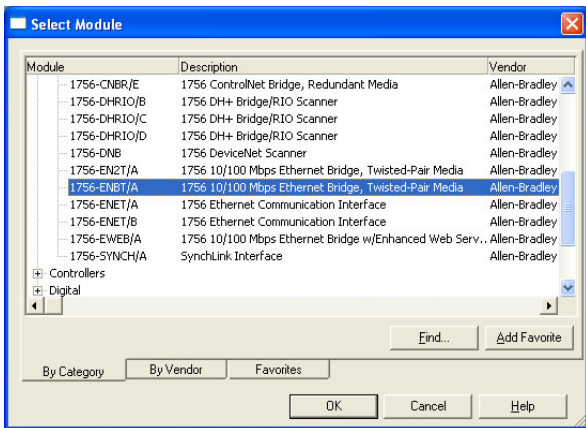

Figure 81: Adding a New 1756-ENBT/A Module
- 5) Under “Communications”, select “1756-ENBT/A”, and click OK. Refer to Figure 81.